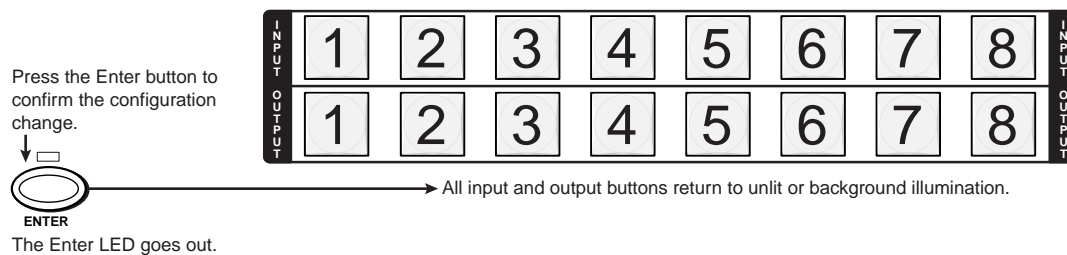

Figure 3-19 — Press Enter
4. Press and release the Enter button (figure 3-19).